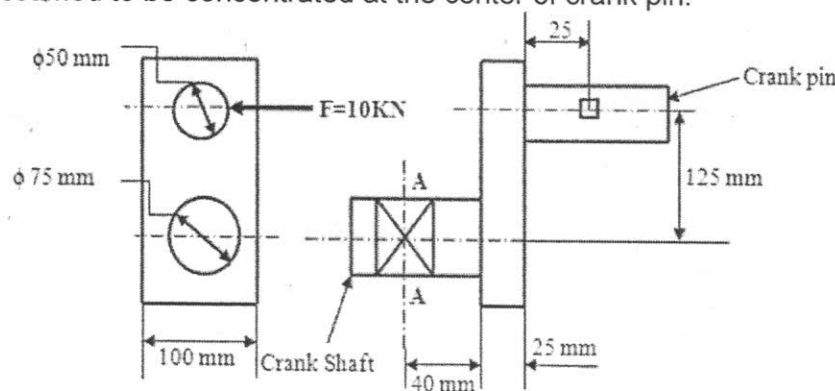

Fig.Q2 (b)
- b) Determine the maximum normal stress and maximum shear stress at section A-A for crank shown in Fig.Q2 (b). When load of 10kN is assumed to be concentrated at the center of crank pin.